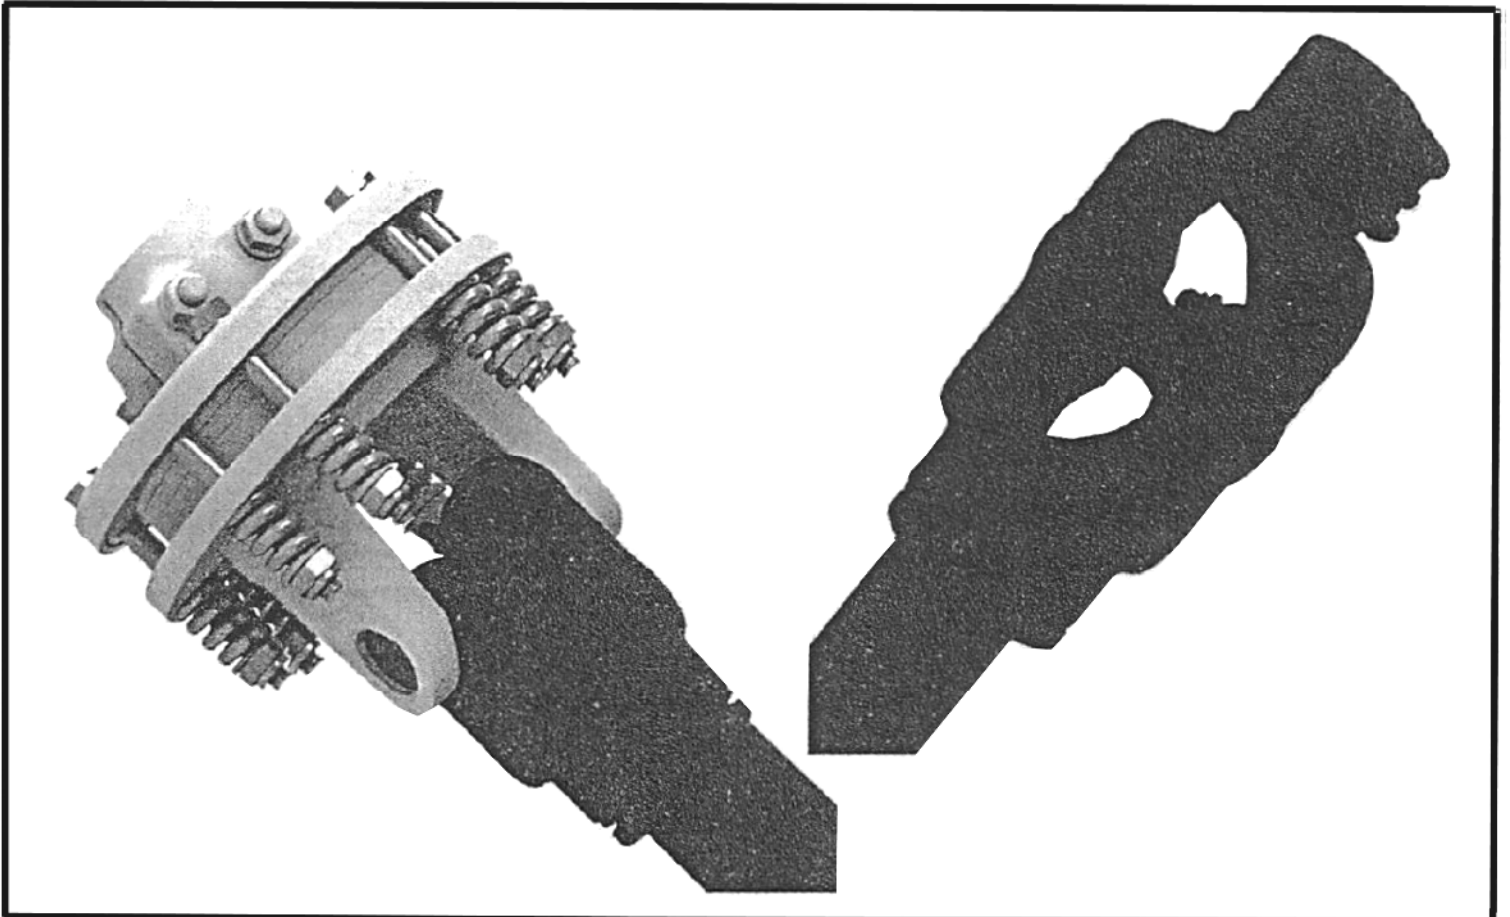

Figure 18 (Step 6)
6). Pull outward on the tabs adjacent to the split in the bearing to remove the bearings from either end of the driveline. Please refer to Figure 18, below, for a disassembled driveline.